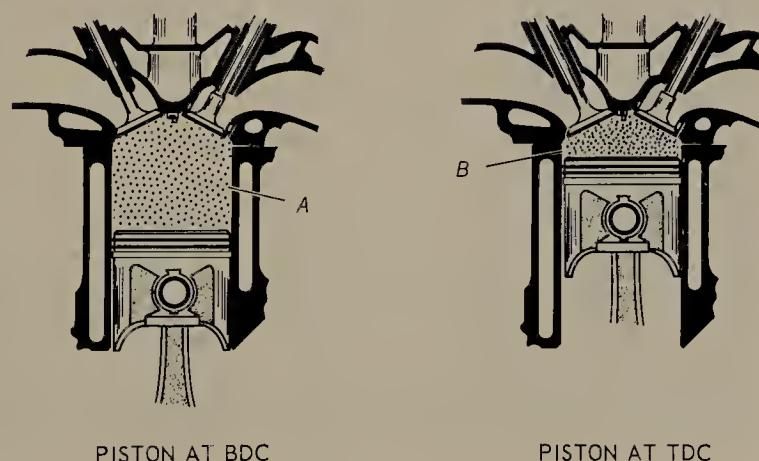

FIGURE 5.8 Compression ratio is the volume in a cylinder with the piston at BDC divided by its volume with the piston at TDC, or A divided by B.
5.9 Compression Ratio. The compression ratio of an engine is a measurement of how much the air-fuel charges are compressed in the engine cylinders. It is calculated by dividing the air volume in one cylinder with the piston at BDC by the air volume with the piston at TDC (Fig. 5.8).
For example, the engine of one popular automobile has a cylinder volume of 42.35 cu in. at BDC (A in Fig. 5.8). It has a clearance volume of 4.45 cu in. (B in Fig. 5.8). The compression ratio, therefore, is 42.35 divided by 4.45, or 9.5/1 (that is, 9.5:1). In other words, during the compression stroke, the air-fuel mixture is compressed from a volume of 42.35 cu in. to 4.45 cu in., or to 1/9.5 of its original volume.
Volumetric efficiency is the ratio between the amount of air-fuel mixture that actually enters the cylinder and the amount that could enter under ideal conditions. For example, a certain cylinder has an air volume (A in Fig. 5.8) of 47 cu in. If the cylinder were allowed to completely "fill up," it would take in 0.034 oz of air. However, suppose that the engine were running at a fair speed, so that only 0.027 oz of air could enter during each intake stroke. This means that volumetric efficiency would be only about 80 percent (0.027 is 80 percent of 0.034). Actually, 80 percent is a good volumetric efficiency for an engine running at fairly high speed. Volumetric efficiency of some engines may drop to as low as 50 percent at high speeds. This is another way